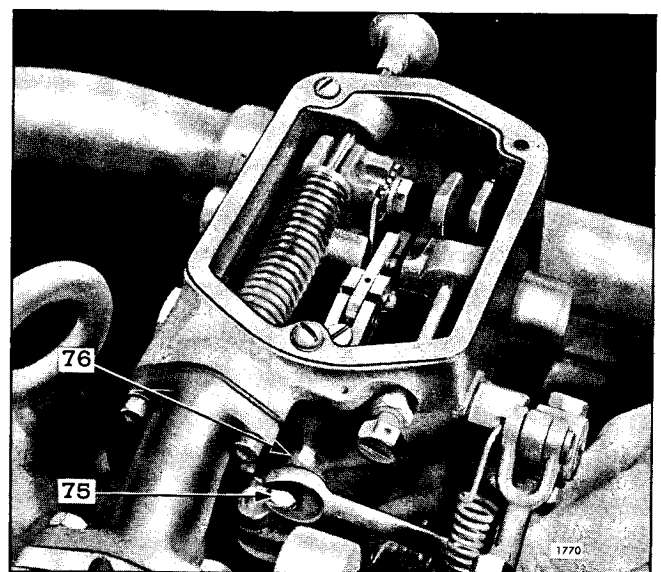

Fig. 5 - Setting Maximum Speed Adjusting Screw
3. Loosen lock nut (76), Fig. 5, and back off maximum speed adjusting screw (75) approximately 5/8".
2. Turn maximum speed adjusting screw (75), Fig. 5, in until engine is operating approximately 8% above the rated full-load speed.
3. Hold screw and tighten lock nut (76). Install governor cover.